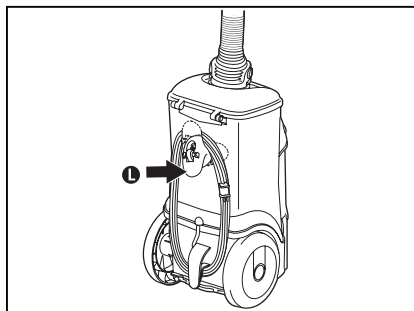

Fig. 7
Step 5: Rotate swivel cord hook (L) on bottom of canister to release cord (Fig. 7).
Step 3: Rotate swivel cord hook (L) on bottom of canister to release cord (Fig. 7).